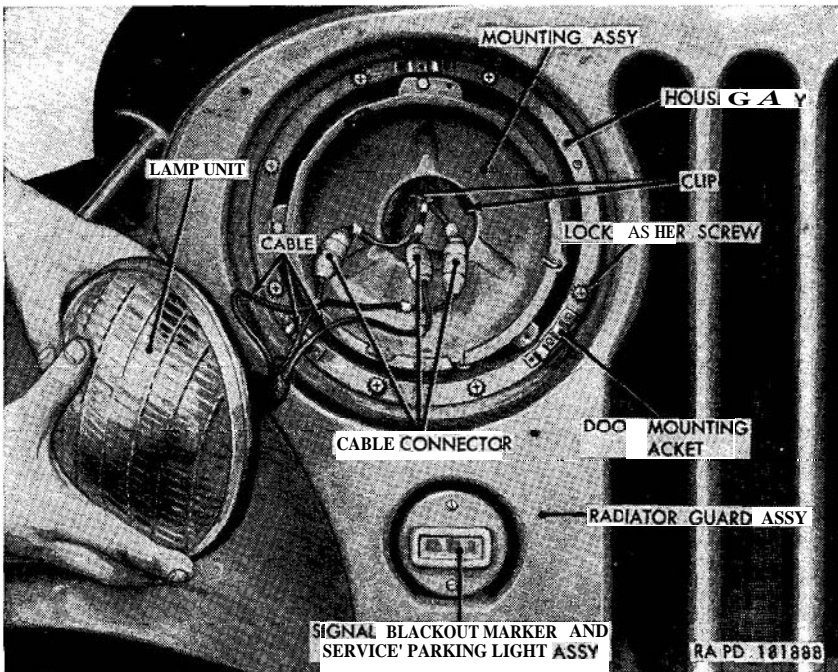

Figure 102. Removing headlight lamp-unit with cables assembly.
- (c) Lift lamp-unit out of the mounting assembly and pull the cable connectors out of the clips in the housing assembly (fig. 102).
- (2) *Installation.*
- (a) Position the lamp-unit at housing assembly and connect the cable connectors (fig. 102) of cables 17, 18, and 91.
- (3) Remove the seven lockwasher screws from the front, and one lockwasher screw from the rear, securing the headlight housing assembly and the ground cable 91, to the radiator guard assembly, and remove the headlight housing assembly with the lamp-unit mounting assembly (fig. 102) and the headlight assembly mounting pad from the vehicle.
- (1) Position the mounting pad on the rear of the housing assembly and align pad mounting holes with housing mounting holes.
- (2) Position the housing assembly and mounting pad in radiator guard assembly (fig. 102) and align housing and pad mounting holes with radiator guard mounting holes. Secure housing and pad to guard with seven No. 10 x 1/2 lockwasher screws from the front. Position the cable 91 (fig. 104) on the guard assembly at the rear and install a No. 10 x 1/2 lockwasher screw.
- (3) Insert headlight cable assembly and cable 91 through the hole in the top of the headlight housing assembly and press grommet into hole. Pull cables to front of housing far enough to connect lamp-unit.
- (4) Follow procedure in *b* (2) above.
- (1) Remove the two bolts securing the door with lens assembly of the signal blackout marker and service parking light (fig. 102) and remove the door and the door gasket (fig. 105).
- (2) Reach into light assembly and turn lamp counterclockwise and remove lamp.
- (3) Insert new lamp into lamp socket and turn clockwise to lock lamp in position.
- (4) Position door with lens assembly and door gasket on signal blackout marker and service parking light assembly and secure door to light with two No. 8 x 1/2 bolts.